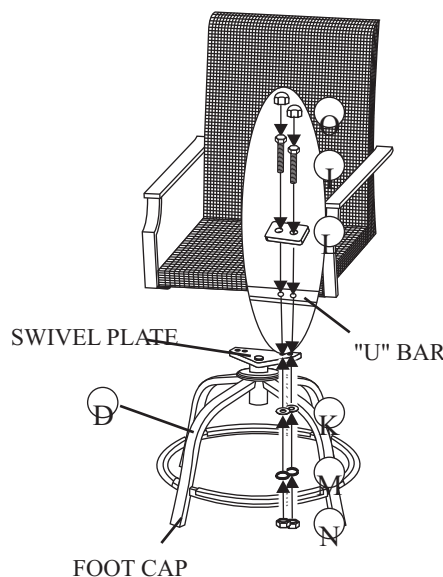

Fig. 3
Step 7: Carefully examine the **Fig. 3**. Attach a metal plate (L) to two (2) bolts and guide the bolts through the top of one set of holes in the "U" bar (located at the bottom of the chair frame) and into the pair of holes in the swivel plate. From beneath the swivel plate, add a washer, then a spring washer and a nut to the end each bolt. Hand tighten only. Repeat procedure for pair of holes on the opposite side. Again, hand tighten nuts only. Do not tighten nuts completely.